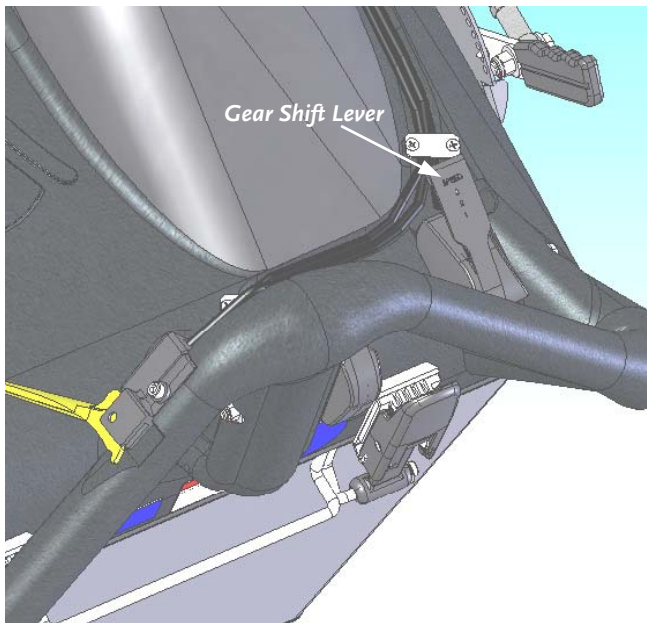

Figure 12
1. Move the Gear Shift Lever (**Figure 12**) to the desired speed position (1, 2, or 3, see page 2).